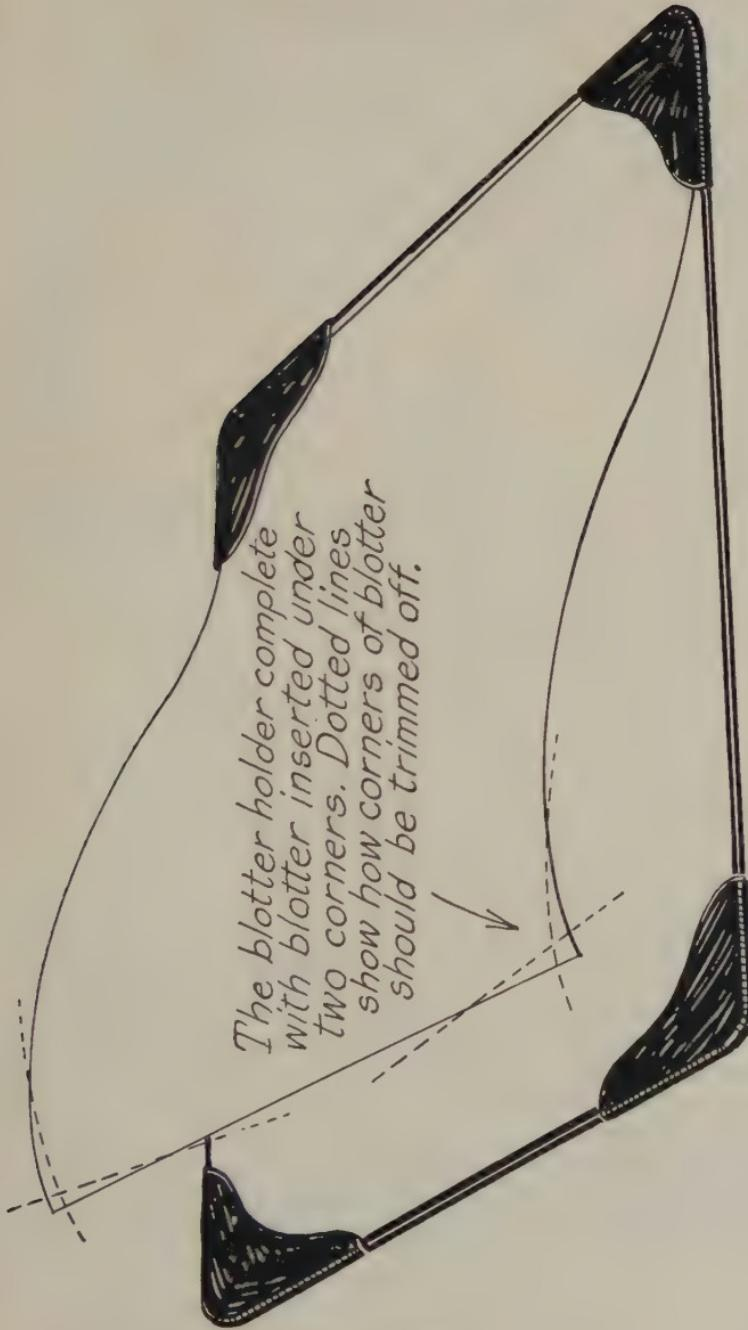

FIG. 109—COMPLETED DESK PAD, WITH DIAGRAM SHOWING PROPER
We intend to make a desk-blottter pad or holder like Fig. 109.
9. In fitting the sheets of blotting paper it is well to cut the four corners, like Fig. 109.